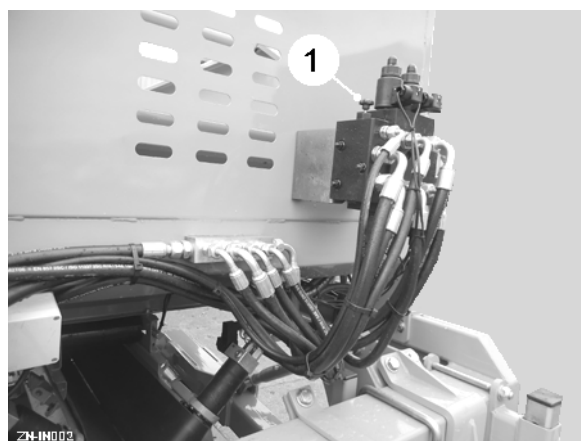

Fig 2
Set the planter valve bank to match the tractor hydraulic system. For closed-centre and load-sensing systems, turn the screw (item 1, fig 2) clockwise until fully in. For open-centre systems, turn the screw anti-clockwise until fully out.